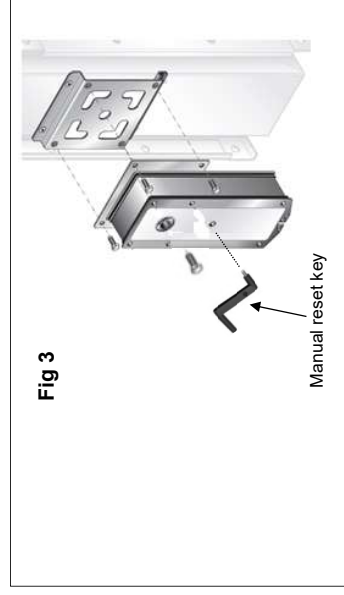

Fig 3
8 Instructions for removing / refitting, or changing orientation of actuator (refer to fig 3)
8.4 Undo the short 10mm A/F bolts connecting the actuator fixing plate (see figure 3) to the damper actuator bracket and slide actuator completely off the damper drive shaft. Rotate actuator and actuator fixing plate assembly to desired position and re-fit all bolts tightening to ~5Nm. (to maintain synchronization, DO NOT alter actuator/damper positions).